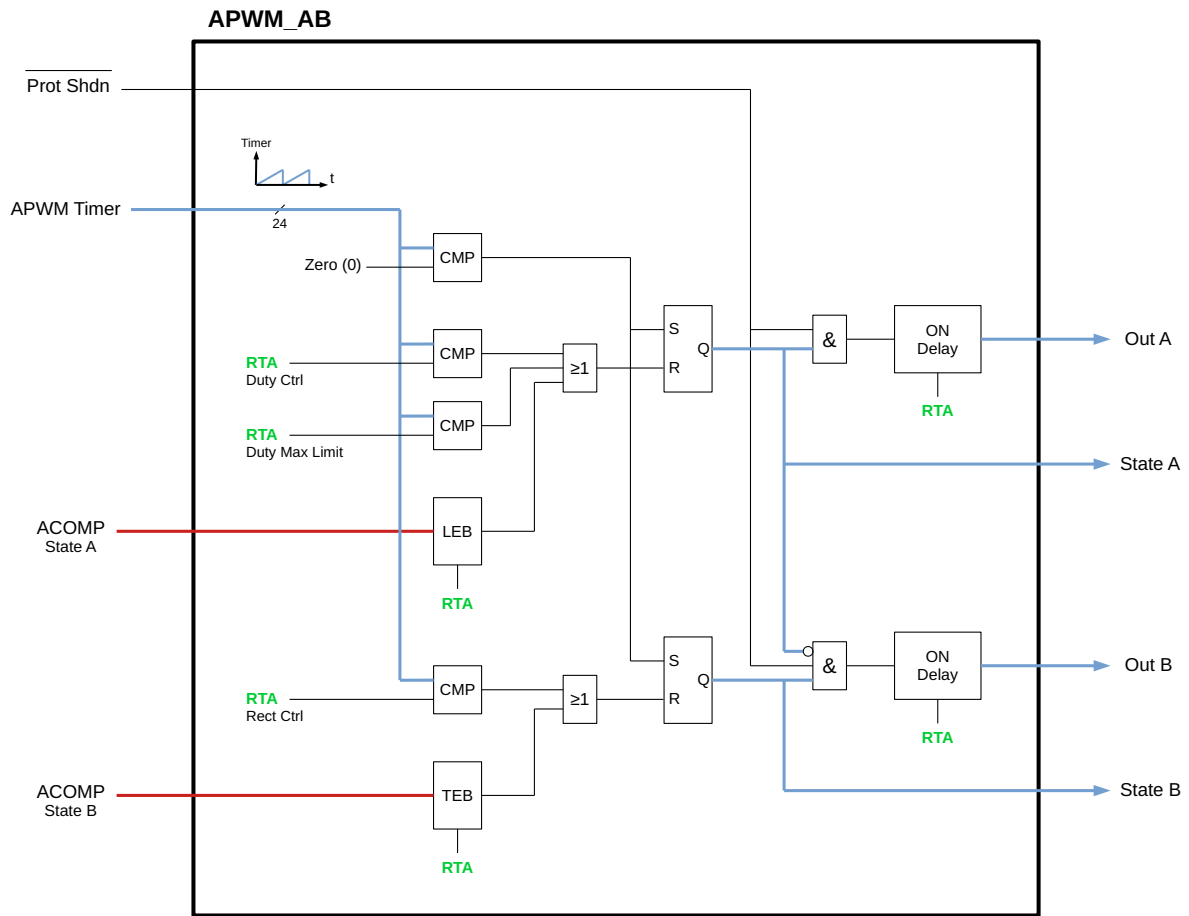

Figure 122. Functional diagram of APWM\_AB
The APWM\_AB hardware block is designed to generate two gate-control signals, Out A and Out B in figure 122, suitable to control the two power switches in a half-bridge switch constellation. The duty cycle can be controlled from peak-current analog comparator, ACOMP State A, or from RTA. Also the frequency from APWM Timer can be reprogrammed PWM cycle-by-cycle from RTA. Hence, all DC/DC topologies, which run in current or voltage control mode with variable duty cycle or frequency, are supported.
The description below refers to figure 122.
| 12 | TEB to ACOMP (TEBAC) - value of the TEB to ACOMP signal output of the TEB block in figure 122                                                                         |
| 11 | ACOMP GPIO Fast (GPFA) - value of the input ACOMP GPIO Fast in figure 122                                                                                             |
| 10 | ACOMP GPIO Set Hard (GPSH) - value of the input ACOMP GPIO Set Hard in figure 122                                                                                     |
| 9  | ACOMP DAC Fast (DACFA) - value of the input ACOMP DAC Fast in figure 122                                                                                              |
| 8  | ACOMP DAC Set Hard (DACSH) - value of the input ACOMP DAC Set Hard in figure 122                                                                                      |
| 6  | Reset (R) - value of the signal input R to the State A SR flip flop in figure 122                                                                                     |